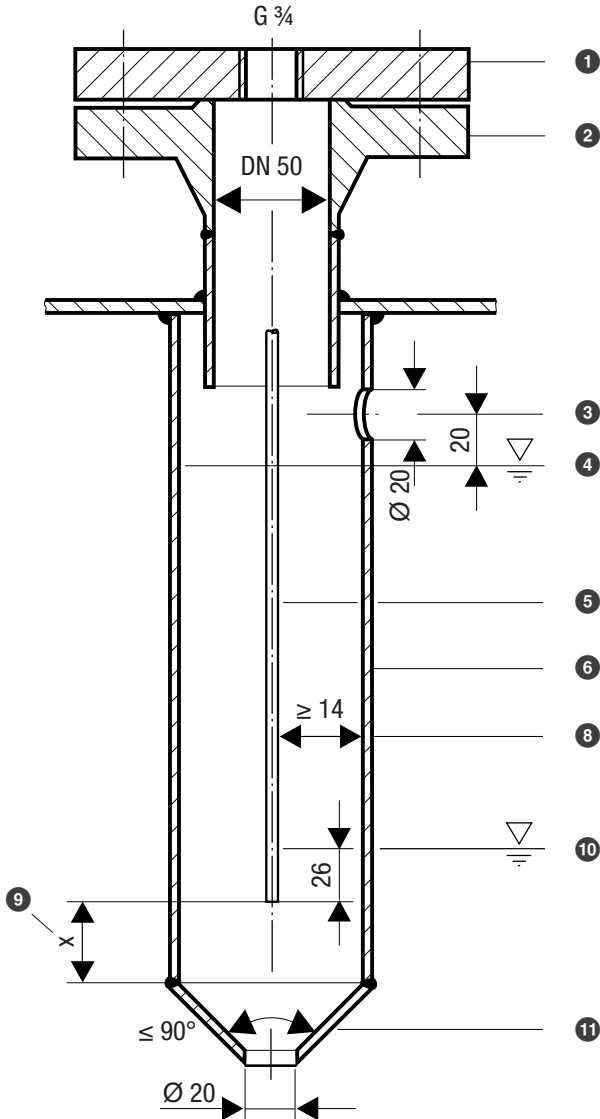
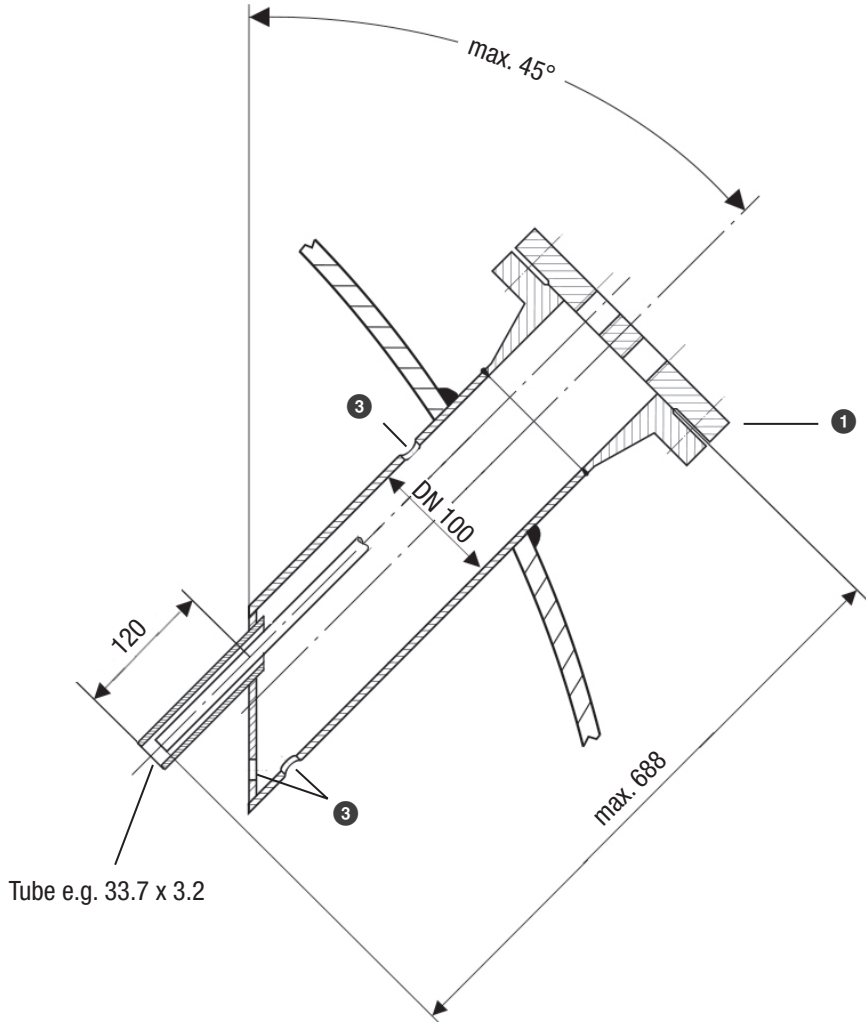

Fig. 12
Fig. 16
- Pay attention to the minimum clearances when installing the level electrode, see installation examples Fig. 12 to Fig. 16.
Installation example with dimensions, see Fig. 12, page 29
Key Fig. 12 to Fig. 16